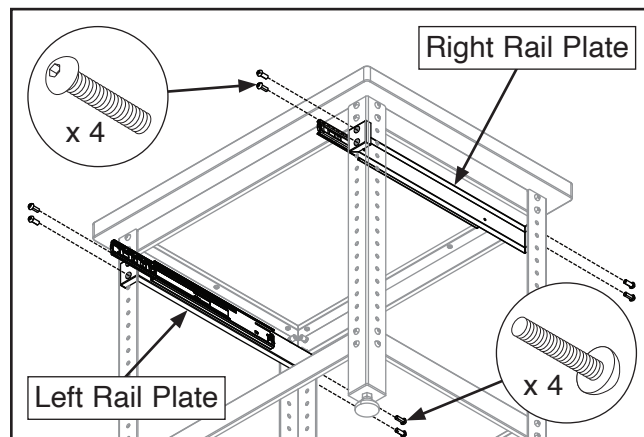

Figure 3. Attaching rail plates to workstation (shown from bottom for clarity).
2. Attach right and left rail plates to workstation with (8) M8-1.25 x 20 button head cap screws, as shown in **Figure 3**.